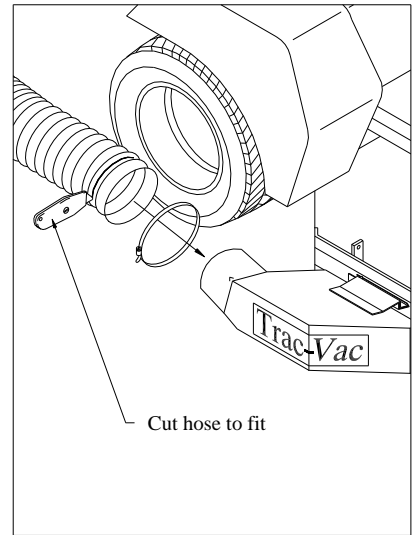

Fig. 15
13. Cut intake hose to fit and attach free end of intake hose (25) to discharge chute with 8" band clamp (24). **Fig. 15**